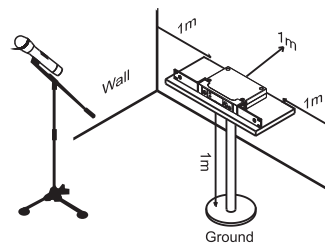

Fig. 12
4. For ideal reception and performance, install the receiver at least 1 meter (3 feet) above the ground and away from EMI / RFI “noise” sources, Fig. 12.